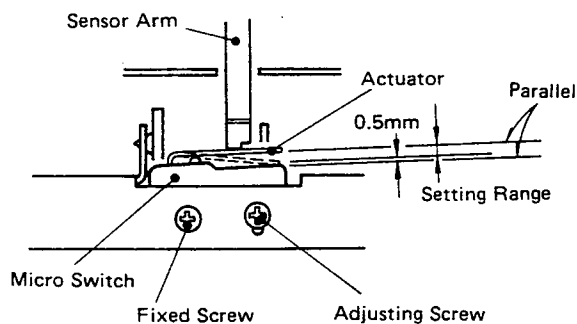

Fig. 6-4-1
- 1) First, loosen two microswitch mounting screws and adjust the mounting position of the switch so that the microswitch actuator is positioned within the setting range(s) as shown for the switch actuated on or off in Fig. 6-4-1.